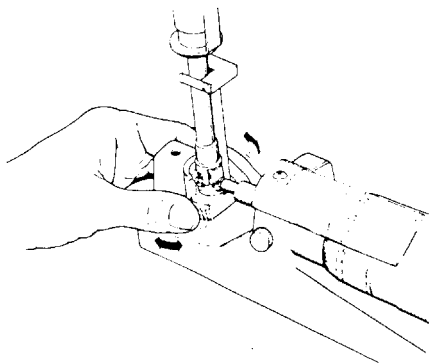

FIGURE 11
10. Rock the Nest in the horizontal plane until the Indicator Hand registers the minimum or "most minus" (-) reading (see Figure 11).